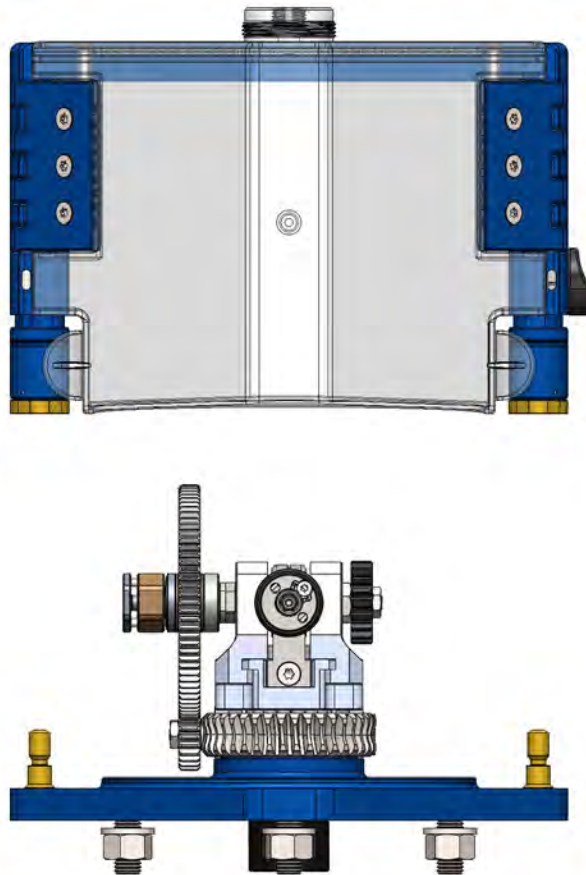

Figure 14
2. While holding the buttons down, lift the cover. Figure 14;